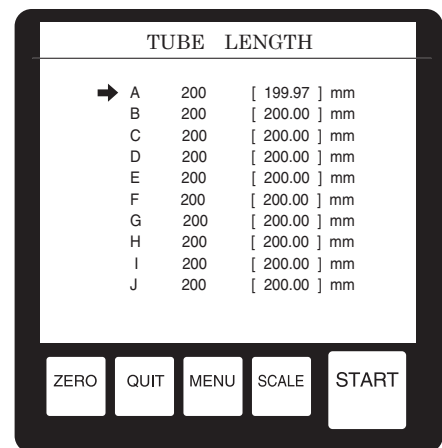

Fig.11-3
- The arrow ($\rightarrow$) will shift down to B, as shown in Fig.11-3. If you wish to continue the $\leftarrow$ key setting for other tubes, repeat the same steps to enter the lengths of observation tubes and the actual lengths of observation tubes.